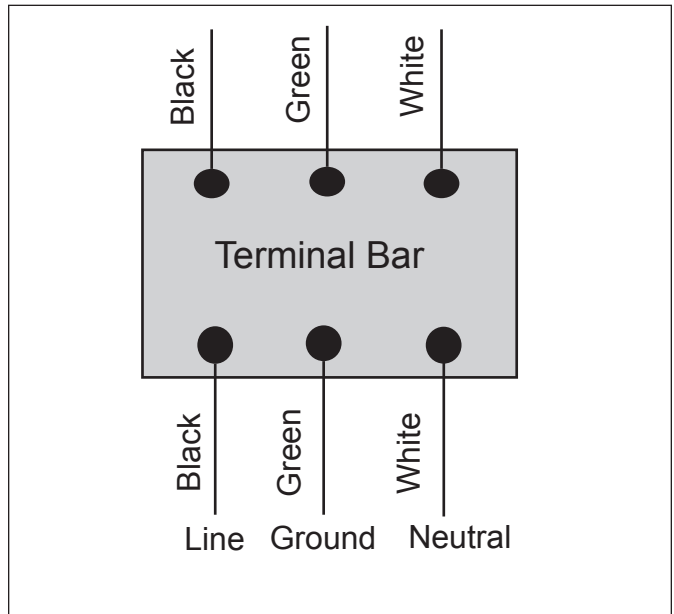

Figure 8. LX2 Factory Direct Wiring for 110 Volt Unit
- b. For 110 volt operation, connect the white wire to the white neutral line. Then connect the black wire to the black power line. See Figure 8.